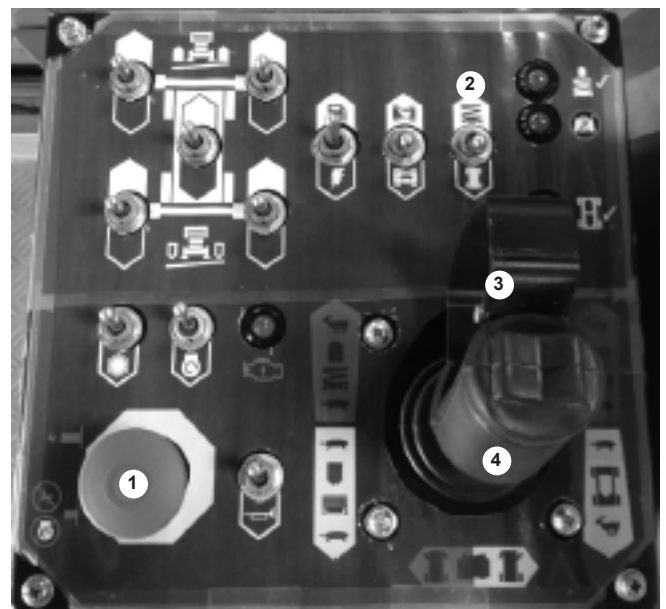

Figure 9.3
2. Set the selector switch (2) (see figure 9.3) to the platform function (up).
1. Squeeze the safety control (3) and pull the joystick controller (4) (see figure 9.3) backward. The platform should lower. If it does not lower, call for help from someone on the ground.